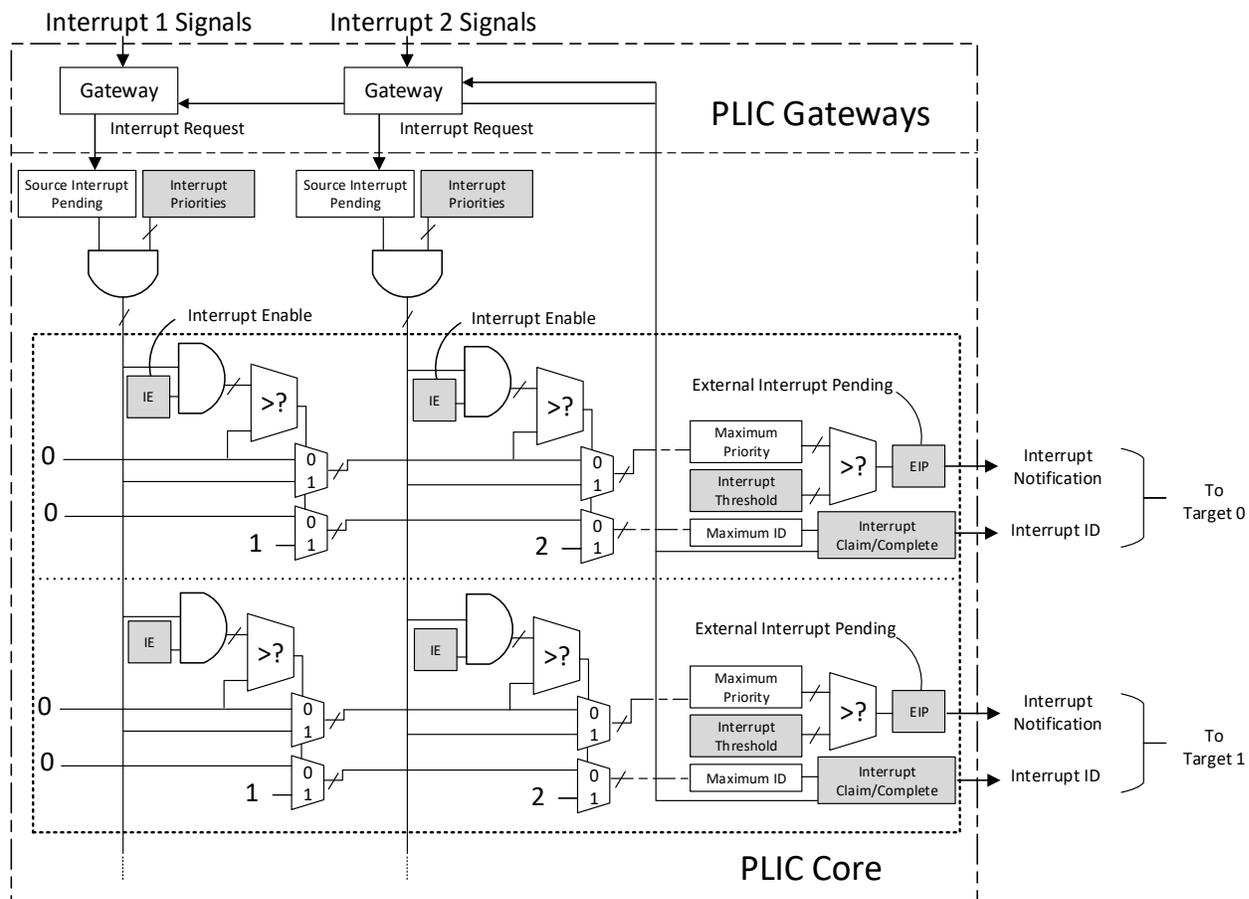

Figure 2.23. PLIC Operation Parameter Block Diagram
Figure 2.23 shows the block diagram of the PLIC operation parameter. An example of how it works: interrupt input 1 gets asserted, it goes through the Gateway and sets the Interrupt Pending bit of the Source. If its Interrupt Enable (IE) is set, the priority value can be passed and compared to other inputs all the way through the chain. The interrupt ID is similarly forwarded. So, if the Max Priority is larger than the threshold, External Interrupt Pending (EIP) can be asserted and sent to the processor. Meanwhile, the Gateway blocks subsequent interrupts from being forwarded until the current interrupt has been completed. Target 0 goes to the Machine mode external interrupt, and Target 1 goes to the Supervisor mode external interrupt.